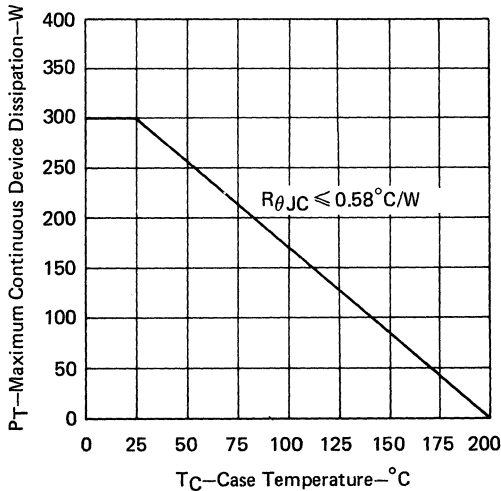

FIGURE 1
2. Derate linearly to 200°C case temperature at the rate of 1.715 W/°C or refer to Dissipation Derating Curve, Figure 1.